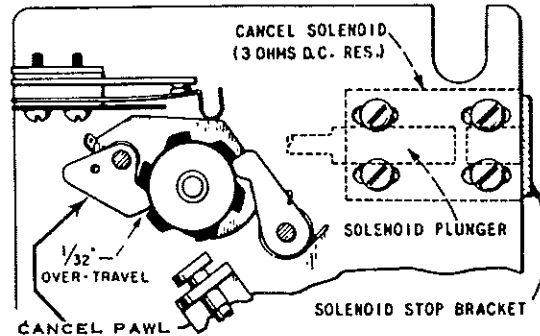

Figure 4.
2. Adjust the position of the Cancel Solenoid Stop Bracket so the Cancel Pawl over-travels the ratchet teeth approximately $1/32''$ when the solenoid plunger bottoms against the Stop. Set the Stop mounting screws firmly after adjustment. See Figure 4.